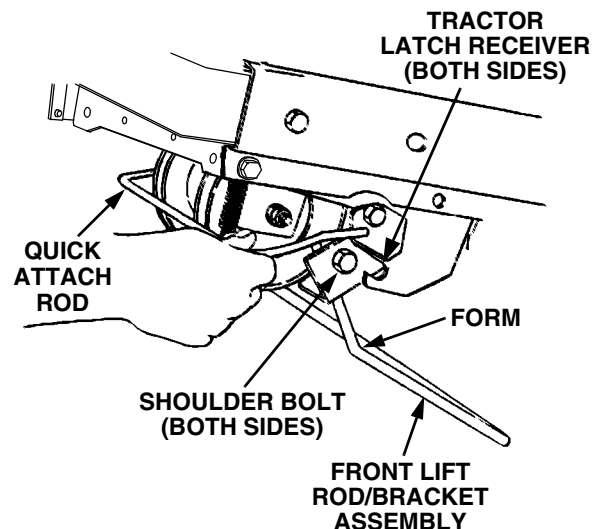

Figure 29
4. Refer to Figure 29 to ensure the correct orientation of the front lift rod/bracket assembly [the form (bend) in sides of rod point downward]. From the front of the tractor, push downward and hold the tractor quick-attach rod. Slide the shoulder bolts on each side of the front lift rod/bracket assembly fully into the left and right tractor latch receivers. Release the tractor quick-attach rod to capture the front lift rod/bracket assembly in the tractor latch receivers